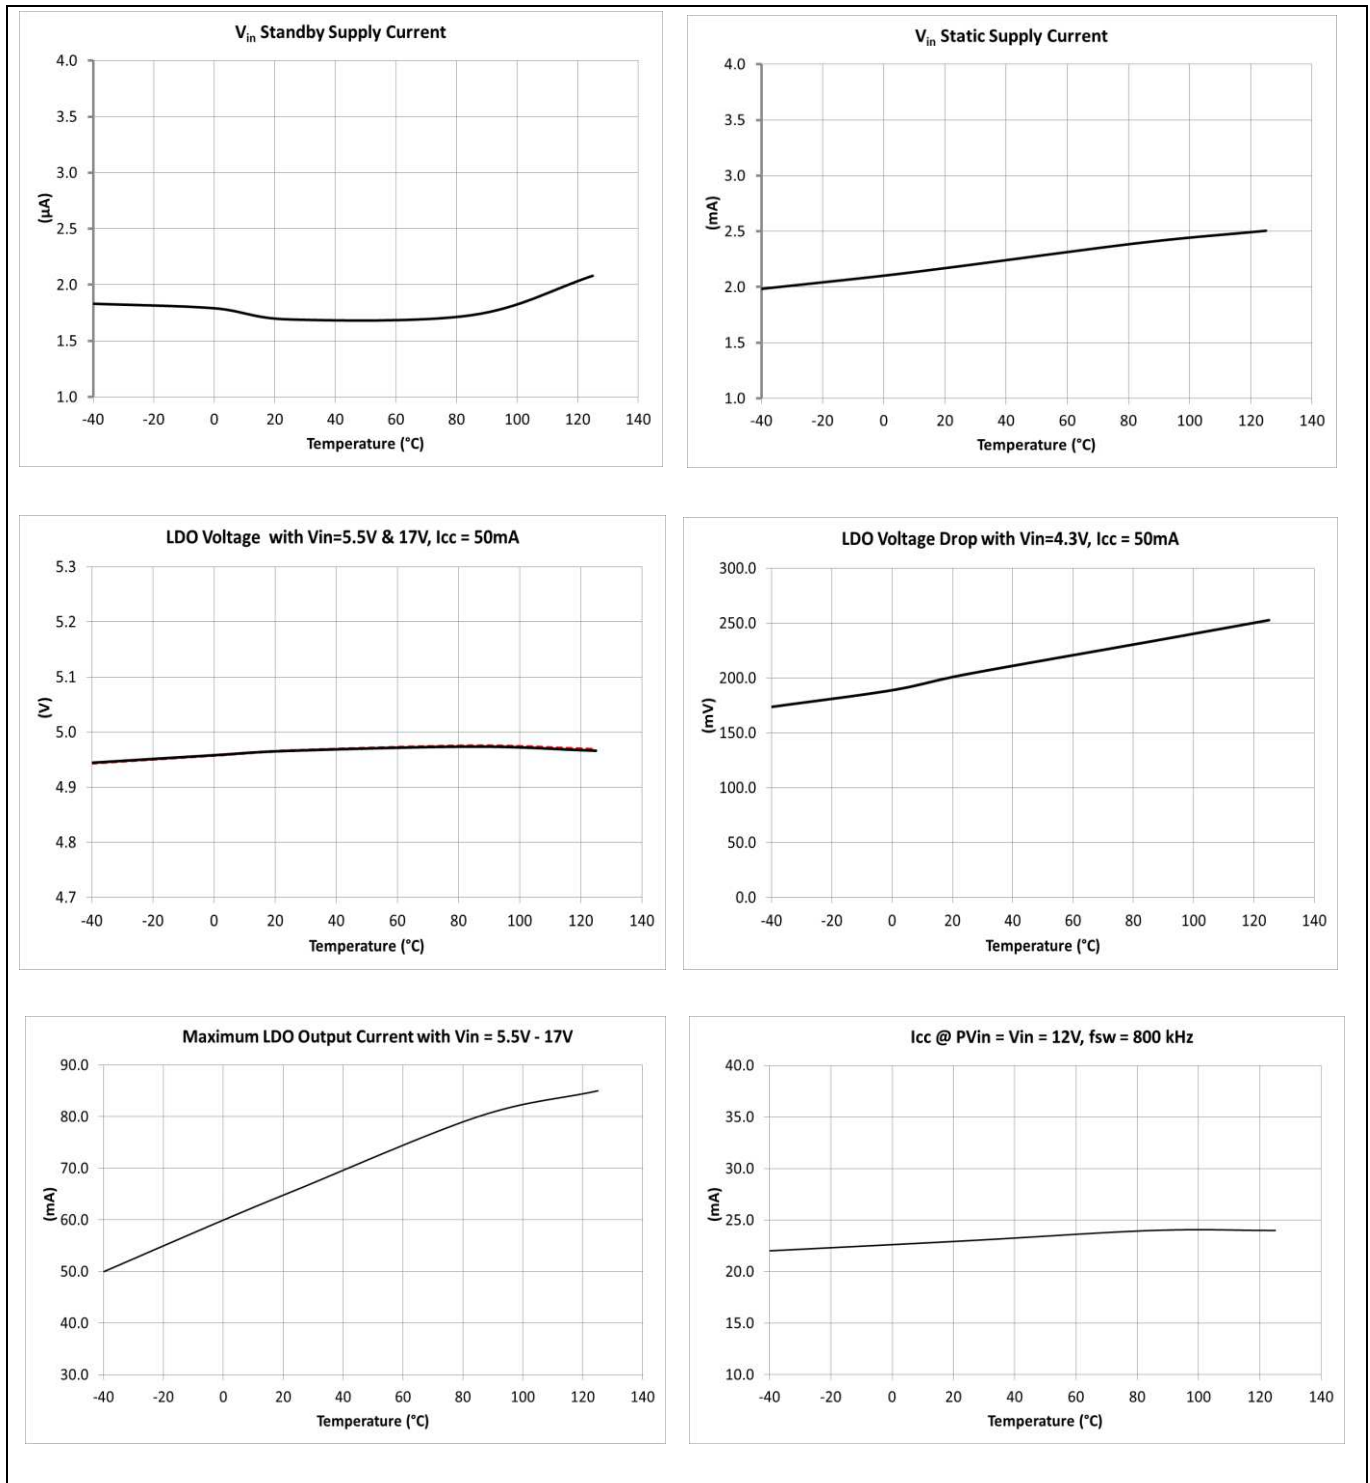

Figure 6 Typical operating characteristics (set 1 of 3)
- When using the internal LDO with $5.5 \text{ V} \leq V_{in} \leq 17 \text{ V}$, it is recommended to check the required VCC bias current for the operation above 1.6 MHz, to ensure that it does not exceed the LDO output current capability as shown in Figure 6. With the increase of f_{sw} , the resulting I_{CC} is also increased mainly due to the increase of the gate charge that is proportional to f_{sw} . In Figure 6, the typical I_{CC} at $PV_{in} = V_{in} = 12 \text{ V}$ and $f_{sw} = 800 \text{ kHz}$ has been provided, which can be used to estimate the I_{CC} at other f_{sw} .